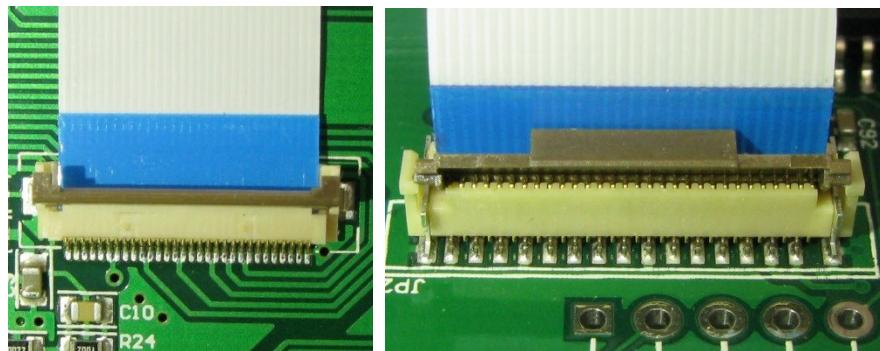

Fig. 26 Lack of ribbon cable connection for horizontal and vertical slots
- lack of ribbon cable connection is shown in Fig. 26.